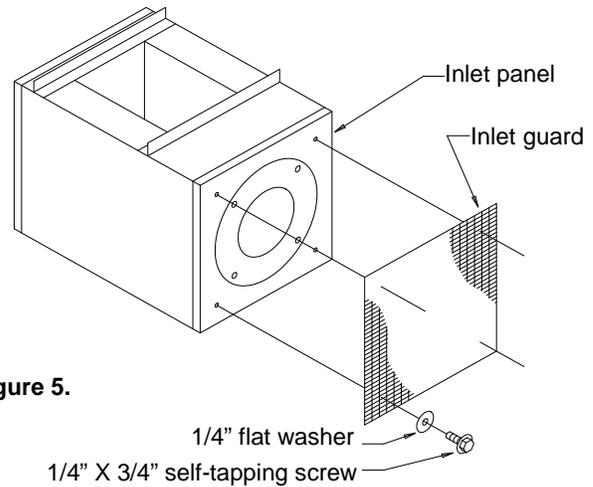

Figure 5.
**Inlet guard installation.** Place the flat guard on the face of the inlet panel. Near each of the four corners of the guard, drill a 13/64" dia. hole in the inlet panel. Using a 1/4" self-tapping screw and a large 1/4" flat washer at each location, fasten the guard to the inlet panel. See Figure 5. On fan sizes 15 and larger, evenly space an additional 1 or 2 screws along each side.